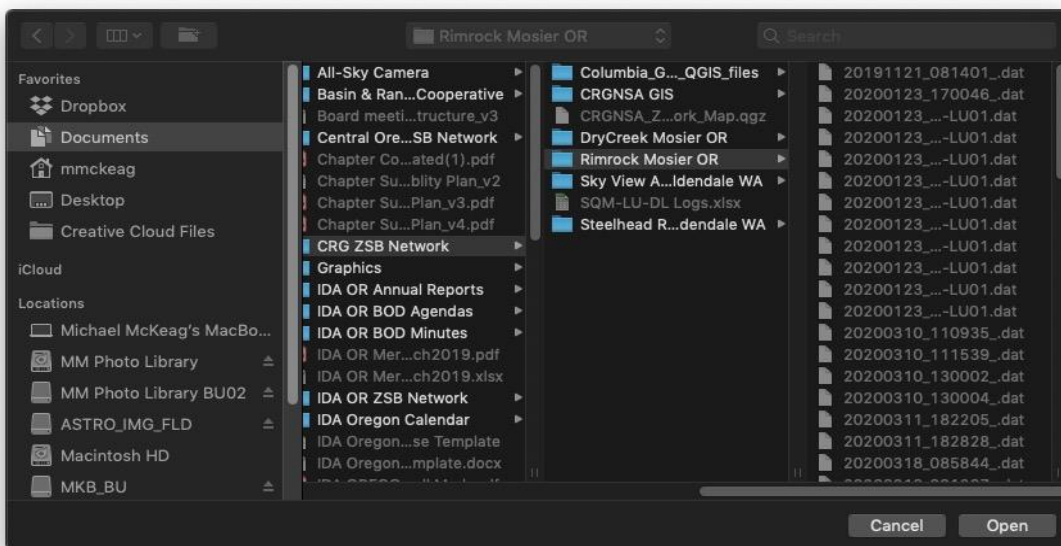

Figure 4: Operating system's file browser window (in this example, Mac OSX Finder). Select desired folder in which retrieved data will be saved.
- a. In Logs Directory Path, click the folder icon (1) to open the operating system’s file browser (Figure 4).